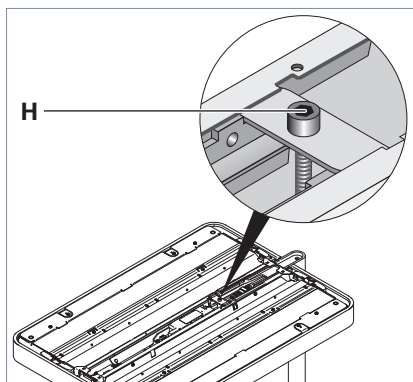

Fig. 5: Adjusting the light head.
- Rotate the adjusting screw **H** until the light head is in horizontal position, see Fig. 5.